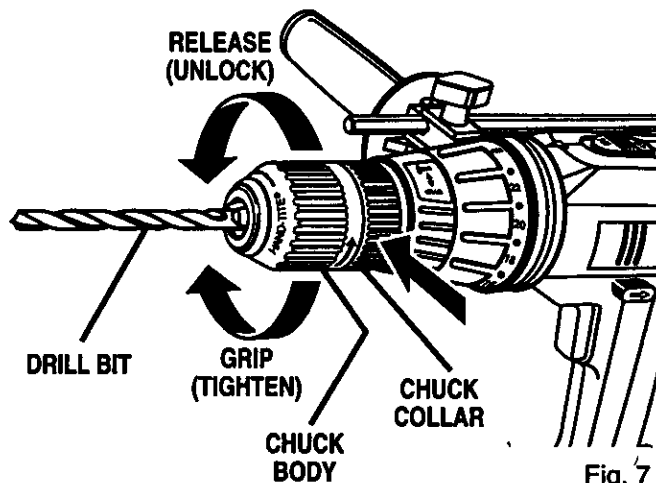

Fig. 7
See Figure 7.
- To tighten the chuck jaws on drill bit; grasp and hold the collar of the chuck with one hand, while rotating the chuck body with your other hand. **Note:** Rotate the chuck body in the direction of the arrow marked GRIP to tighten chuck jaws. See Figure 7.
- To loosen: grasp and hold the collar of the chuck with one hand, while rotating chuck body with your other hand. **Note:** Rotate chuck body in the direction of the arrow marked **RELEASE** to loosen chuck jaws. See Figure 7.